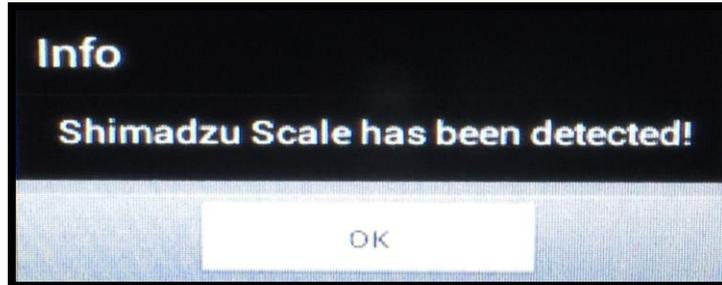

Figure 19
- f. Note: The second “info” window that appears (Figure 19), can have one of two messages